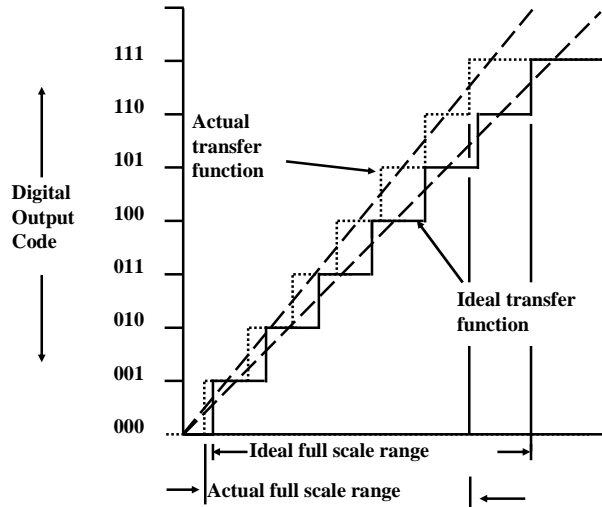

Fig. 3: Span Or Gain Error Versus Ideal Transfer Function Of 3-Bit ADC
Fig. 3 illustrates the concept of span or gain error. Span error is the difference between the ideal slope between zero and full scale (FS) and the actual slope between the measured zero point and FS. You zero out the offset errors with this error calculation and measure the last code transition at $1\frac{1}{2}$ bits below the FS input range of the converter. The calculation for span error is: